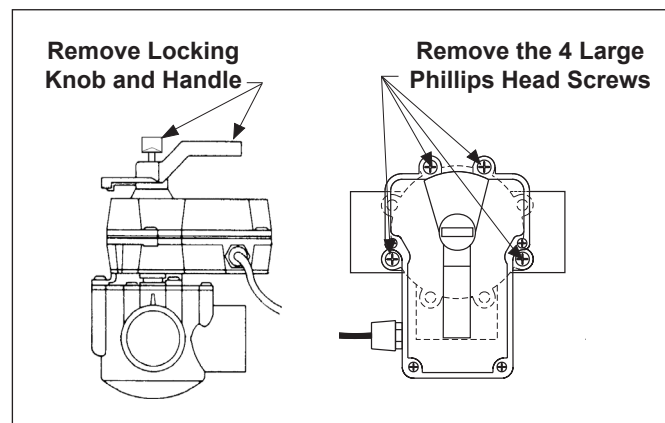

Figure 15. Remove Locking Knob and Lid Screws
1. Unscrew the locking knob by turning the knob counterclockwise. Remove the locking knob and valve handle (see Figure 15).
2. For standard valves, remove the four (4) large Phillips head screws from the valve. The location of the screws you remove will determine how the actuator will be mounted (see Figure 15). When installing the large 3" valve, it is not necessary to remove any screws.